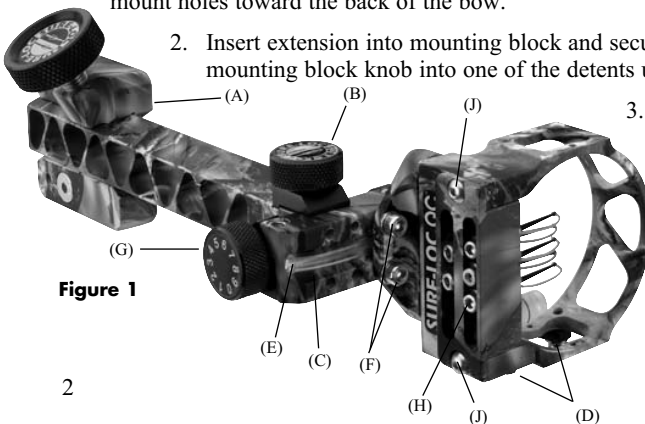

Figure 1
(See Figures 1 and 2)
1. Install mounting block (A) on bow with (2) #10-24 x 7/8" flathead allen screws provided. **(See Figure 1)**
1. Install sight and direct mount with windage clamp knob (B) on the bottom.
2. Remove the 2 level holder screws (Figure 1 D) (#5-40 x 5/16" socket head cap screws) from pin guard and reinstall them with the level and holder on the opposite side.